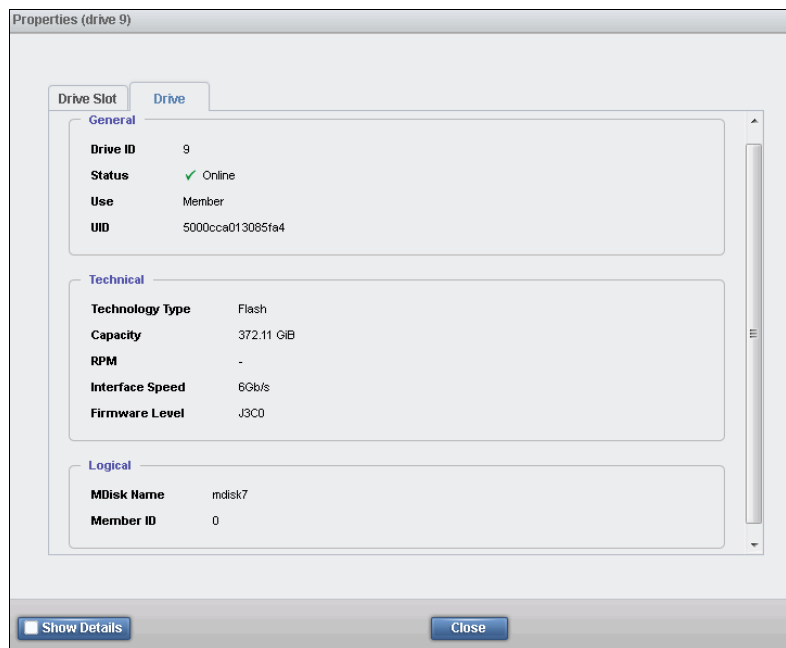

Figure 7-16 Internal drives properties no details
2. If the Show Details option is not selected, the technical information section is reduced, as shown in Figure 7-16.